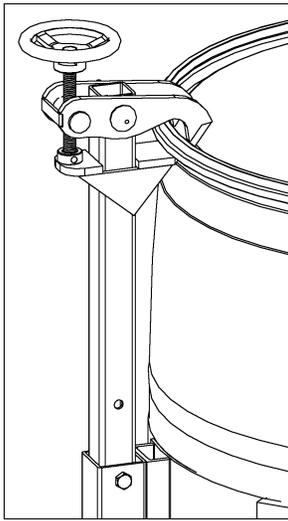
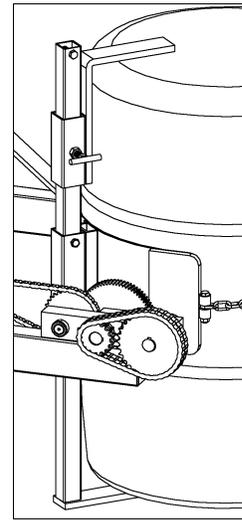

Figure 2.1
Figure 2.2
For handling 55 gallon plastic drums a Morse saddle accessory is required. If the plastic drum has a suitable top rim (see Figure 2.1), the Rim Clamp Assembly (p/n 3540-P) is used. For plastic drums without a top rim (see Figure 2.2), the Bracket Assembly, HDPS (p/n 1465-P) is used.
- b. Rim Clamp Assembly (p/n 3540-P): Turn the hand wheel on the Rim Clamp counter clockwise to open the jaw. Position the drum holder assembly with the bottom jaw of the Rim Clamp directly under the top rim of the drum (see Figure 2.1). Turn the hand wheel clockwise to tighten rim clamp securely onto top rim. Follow same procedure as 3.a. to tighten E14 strap onto drum.
- c. Bracket Assembly, HDPS (p/n 1465-P): Loosen the tee screw on the hold-down and slide it up to highest position. Position the drum holder assembly with the foot of the Bracket Assembly on the floor. Load the drum onto the foot and into the saddle band with a hand truck (see Figure 2.2). Loosen the tee screw on the hold-down and slide it down to meet the top of the drum. Tighten the tee screw. Follow same procedure as 3.a. to tighten E14 strap onto drum.